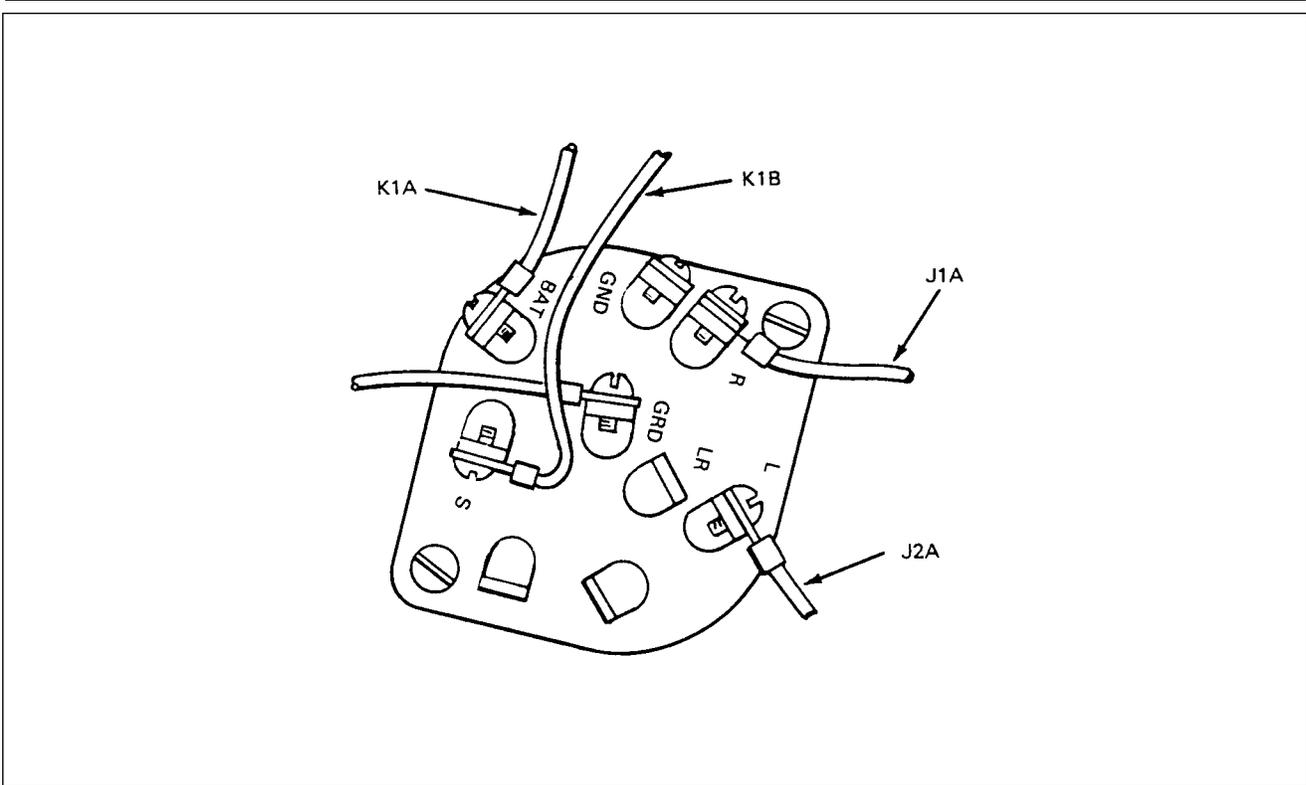

Figure 74-33. Ignition Switch Wire Positions
### **INSTALLATION OF IGNITION SWITCH** (figure 74-33)
1. Attach wires to switch as shown in figure 74-33.